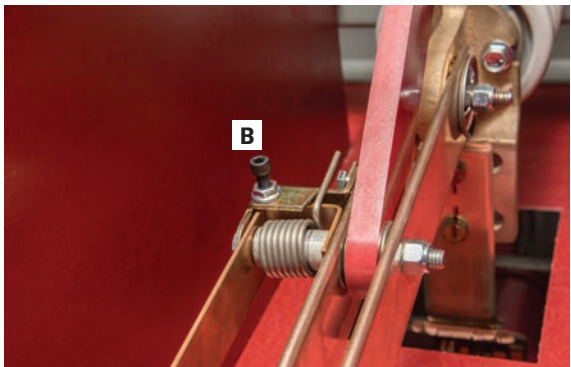

Figure 46: Arcing-blade adjusting screw
Note: If any corrections to the quick-acting blade position are necessary (after all previous steps have been completed), they may be done by loosening the locknut on the arcing-blade adjusting screw (see Figure 46) and turning screw either in or out to obtain positioning of quick-acting blade. Re-tighten locknut.
2. Connect a spring scale to the main blades approximately 1-1/2" below the jaw contact as shown in Figure 46: Use of spring scale for switch blade adjustment on page 62.